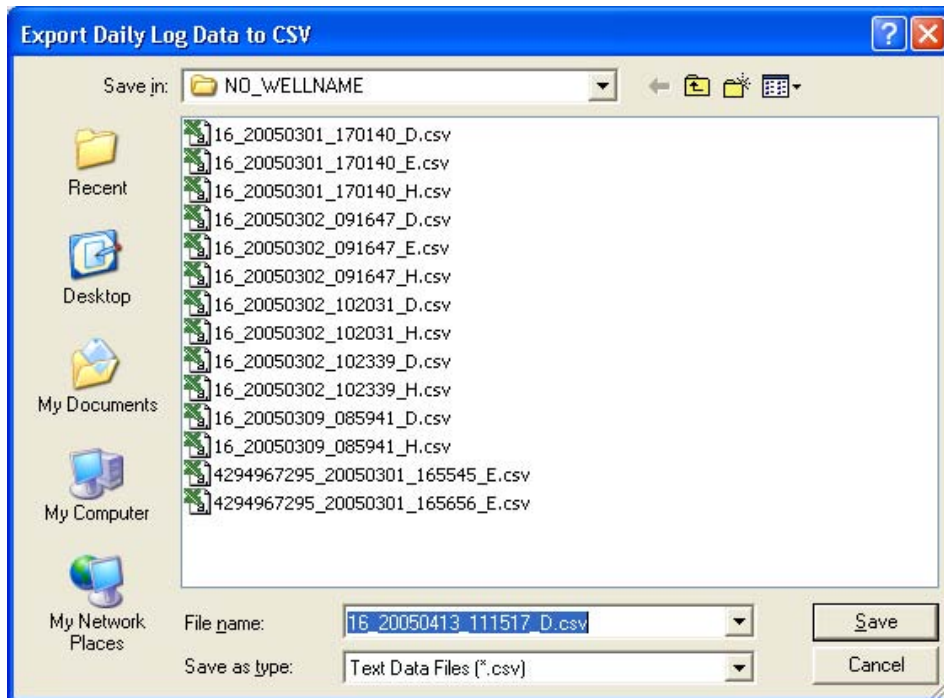

Figure 5.13—Default directory for exported log files
2. When the “Export Daily (or Hourly) Log Data...” window appears, click “Save.” By default, exported logs are saved in C:\NuFlo log data\MC-III<WELL NAME>, however the user can specify a new location, if desired (Figure 5.13, page 84). The “wellname” folder will bear the well name that appears on the Wellsite Information screen. If no well name is entered on this screen, the folder will be named “NO\_WELLNAME.”